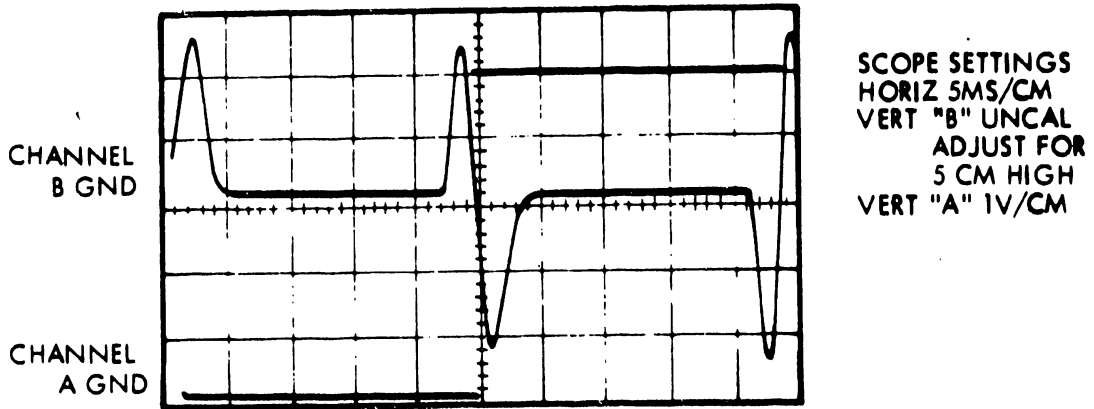

FIGURE 3-7 TYPICAL F.E.O.T. WAVEFORM
22. Use vertical position controls (both channels) to place waveforms on top of each other (Ref. Figure 3-7).
4. Unplug A1P2 (Ref. Figure 3-7) noting orientation according to label on casting.